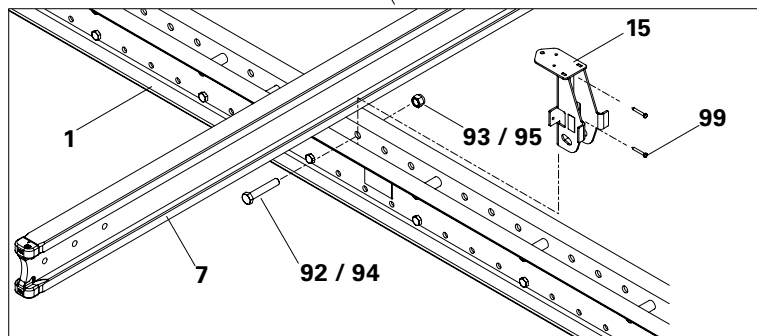

Fig. C3.04a
2. Insert bolts (92 / 94) through the holes in the Climbing Rail or Enclosure Post and Adapter (15). Secure bolts with nuts (93 / 95). (Fig. C3.04a)